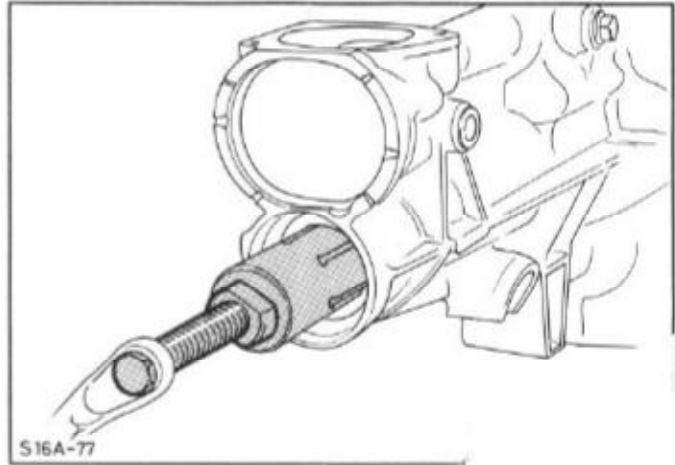

Fig.153. Draw the bush from the ex ('N' transmission shown).
5. Remove the extension housing bush using appropriate special tool, Fig.153.